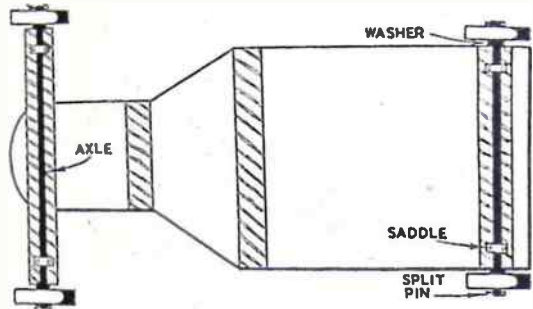

Fig. 6
The front-axle is secured to the lower bar of the steering-piece, and the rear-axle is screwed down to the batten marked (C) in Fig. 1. Washers should be used on either side of each wheel. For detailed fixing of the axles see the underside of the coaster, as illustrated in Fig. 6.